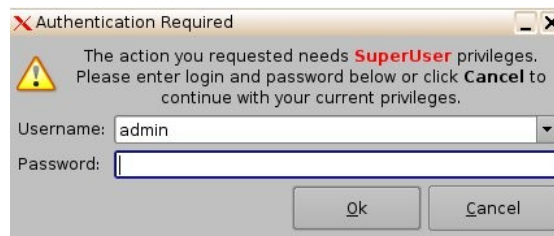

Figure 193: Password Confirmation Window
- The user will be asked for a password to be able to perform the operation (Figure 193).